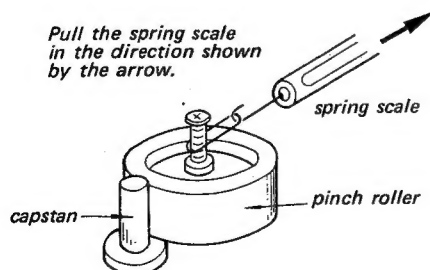

Fig. 3-1-5. Pinch roller pressure adjustment (2)
- (4) Make a loop with a piece of string and attach the spring scale to the Pinch Roller Shaft with the loop of string. See Fig. 3-1-5. Pull the scale horizontally in the direction shown by the arrow. The Capstan Shaft, Pinch Roller and the spring scale should be in a line. Check the reading when the Pinch Roller just leaves the Capstan Shaft.
- (5) Adjust the adjusting nut (B) for  $1.7 \pm 0.1$  kg (3 lb 8 oz to 3 lb 15 oz)
- (6) Repeat steps 3 to 5 several times.
- (7) After adjustment lock the adjusting nut (B) by the lock nut (B), and the adjusting nut (A) by the lock nut (A). (Be careful not to move the adjusting nuts.)